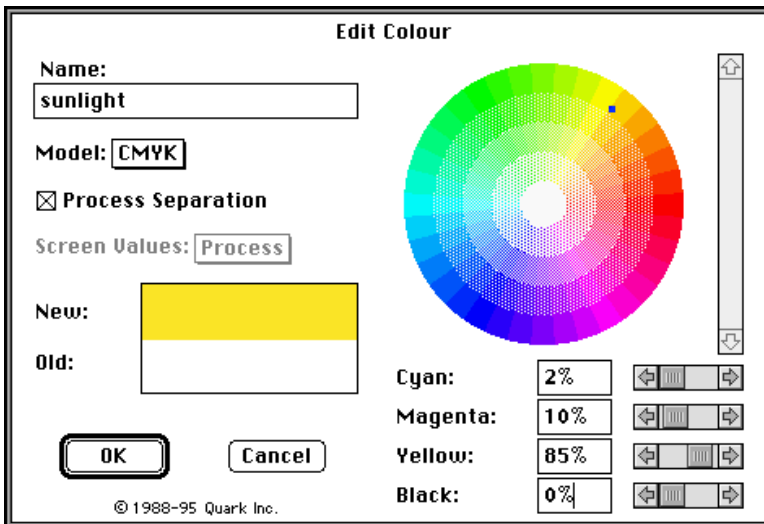

Fig. 20: Defining a CMYK color with the **Edit Colour** dialog
- Select **Edit, Colours** and **New** from the **QuarkXPress** menu to open the dialog shown in figure 20.